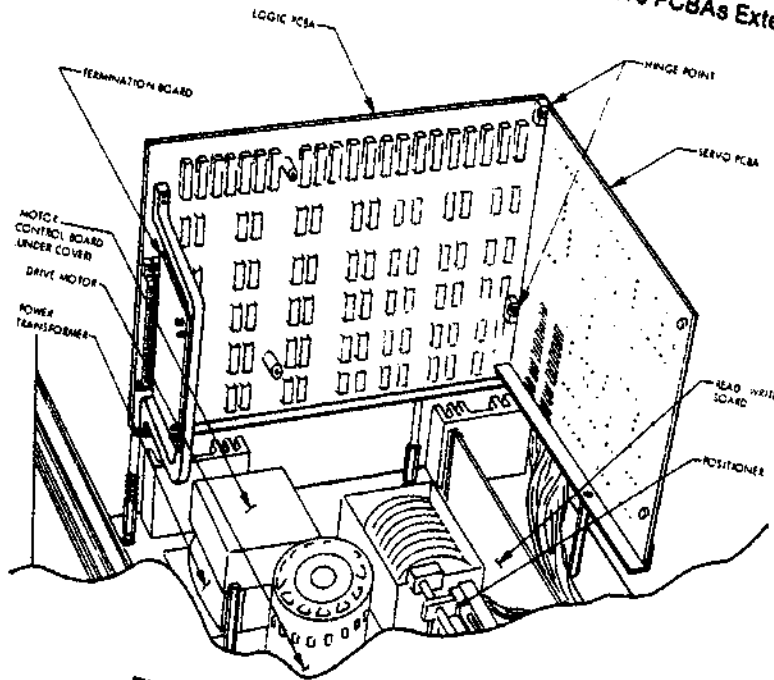

Figure 2-4. Component Identification
- (8) Swing the Servo PCBA into its extended position; engage the locking pin and the PCBA support bracket (see Figure 2-4).
- (1) With the protective dust cover removed and with the Servo PCBA in the raised position (as shown in Figure 2-4), inspect the PCBAs, connectors, and cables. Verify that shipping damage has not occurred. Check the connectors and plug-in relay for proper installation.
- (2) Verify that the positioner is in the fully retracted position.
- (3) Verify that the cartridge area is free of dirt, contaminants, and shipping material.
- (4) Verify that the ON/OFF switch is set to OFF.